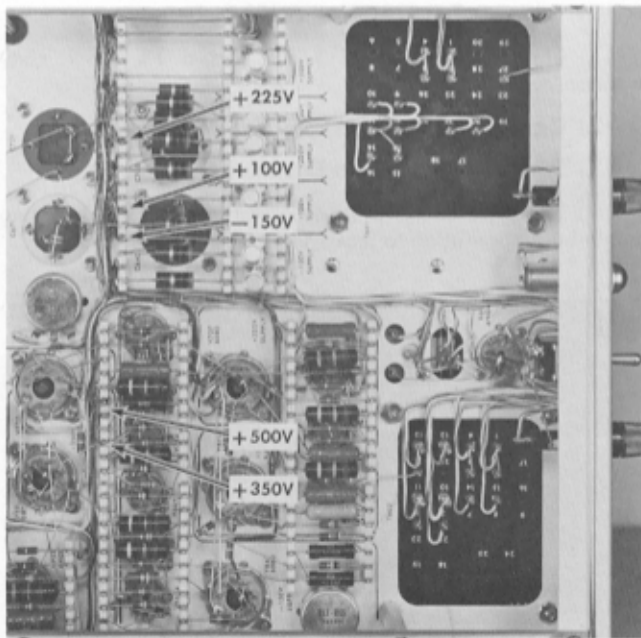
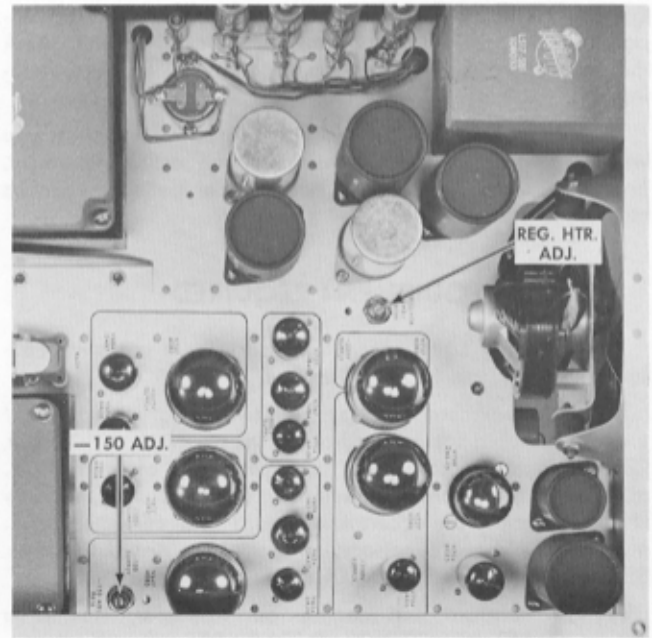

Fig. 7-2. Bottom view of the power supply showing the location of the test points.
Fig. 7-3. Top view of the power supply unit showing location of the power supply unit adjustments.
Measure the output voltage of the -150 v, +100 v, +225 v, +350 v and +500 v supplies at the points indicated on the Power Supply Unit (see Figure 7-2). Be sure your meter is accurate (see Equipment Required, (1)). The output voltage of the -150 v supply must be between -147 v and -153 v, and the other regulated supplies must be within 2% of their rated values. You should be able to set the -150 ADJ. control (see Power Supply Unit, Figure 7-3) so that all of these voltages are within the specified tolerance. Bear in mind that the calibration of the entire instrument is effected by changes in the power supply voltages. Don't adjust the -150 v unless one or more of the supplies is actually out of tolerance.